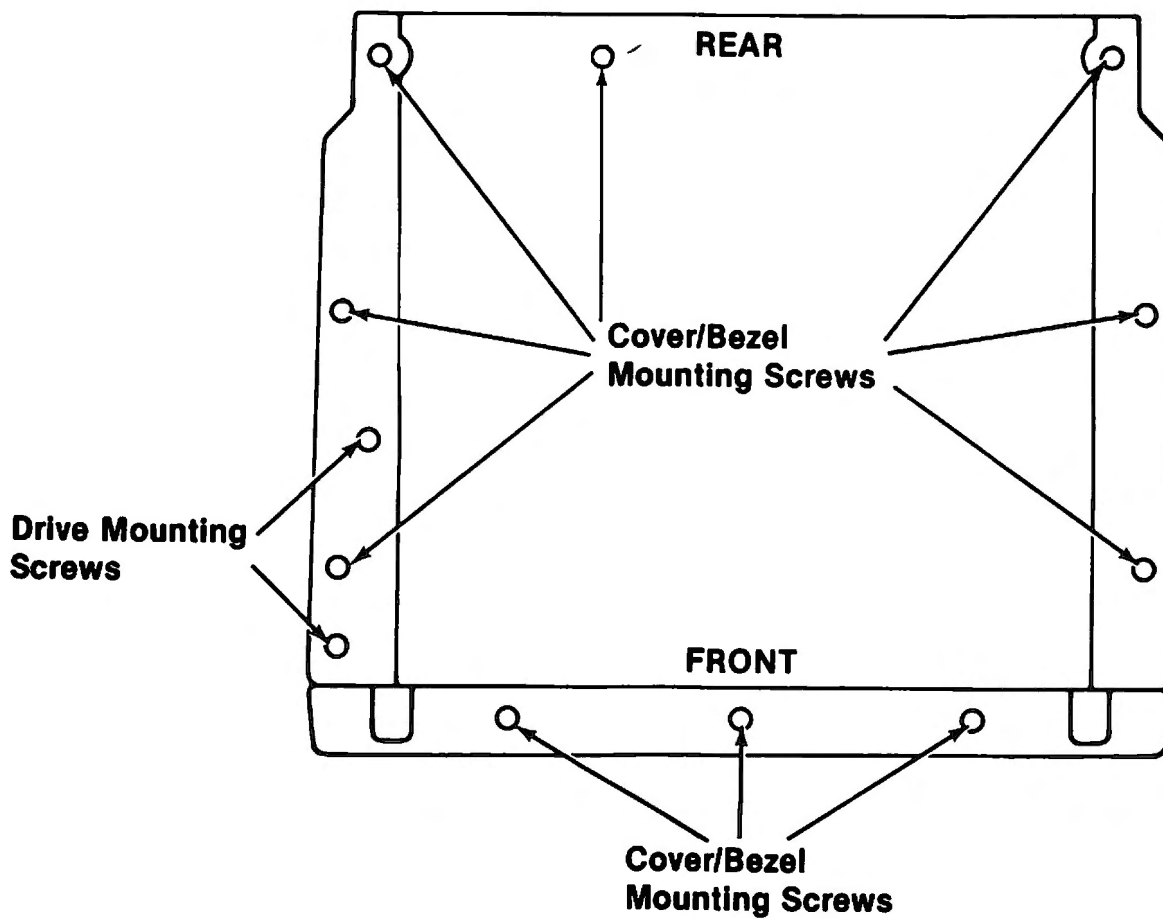

Figure 3-1. Cover/Bezel Assembly Mounting Screws
5. Remove ten (10) screws that attach the Cover/Bezel Assembly to the Base Assembly. There should be three screws on the right side, three screws on the left, one screw at rear, and three screws at the front. See Figure 3-1, which shows the location of the screws.